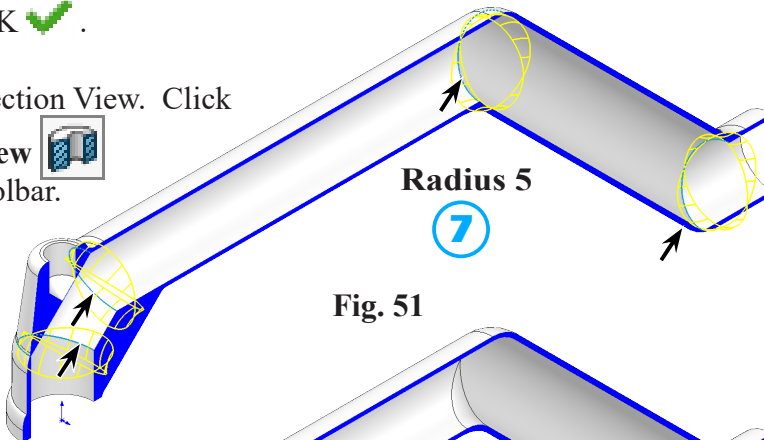

Fig. 51
⑦ **Radius**
click **inside edges of Sweep 45s (4)**, **Fig. 51**